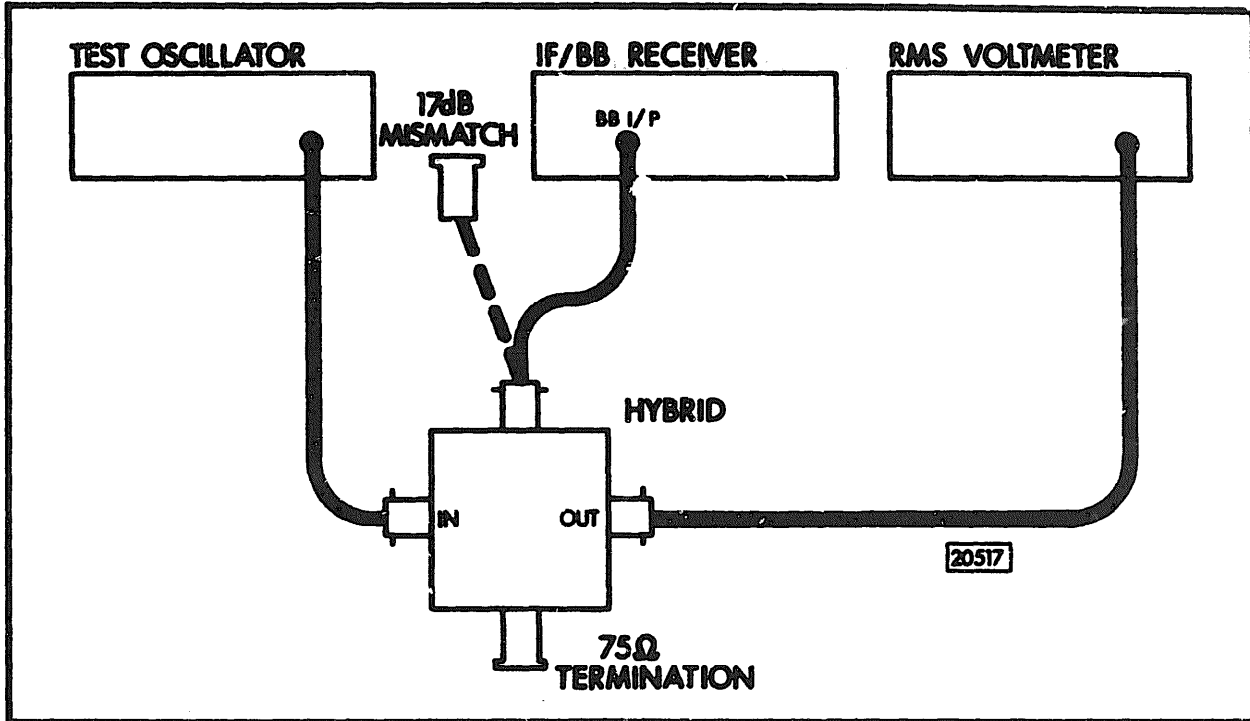

Figure 4-16 BB Input Return Loss Check
2. Connect the equipment as in Figure 4-16, with the 17dB mismatch connected to the Hybrid.
5. Remove the 17dB mismatch from the Hybrid and connect the Hybrid to the BB INPUT (C).